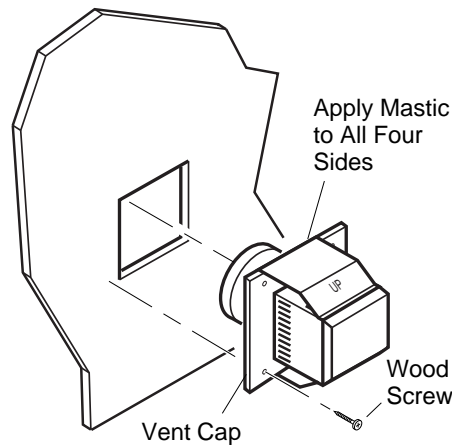

Figure 23 - Installing Horizontal Vent Cap
4. Apply a bead of non-hardening mastic around the outside edge of the vent cap. Position the vent cap in the center of the 7 1/2" or 10" hole on the exterior wall with the word "UP" on the vent cap facing up. Insure proper clearance of 1" to combustibles is maintained. Attach the vent cap with four wood screws supplied (see Figure 23). **Note:** Replace the wood screws with appropriate fasteners for stucco, brick, concrete, or other types of siding.